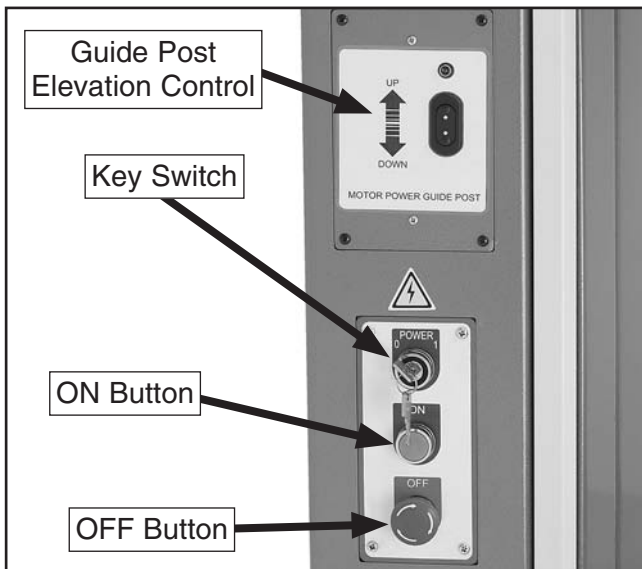

Figure 23. Control panel.
6. Verify that the machine is operating correctly by turning the key switch to "1" (see **Figure 23**), then pushing the ON button.
10. Turn the key switch back to "1", then use the guide post elevation control to raise and lower the guide post (see **Figure 23**).